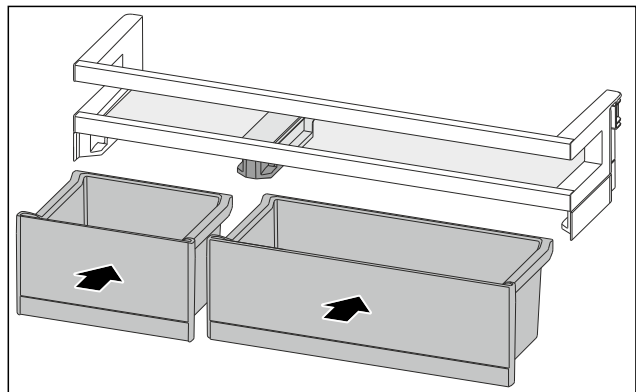

Fig. 143
- ▶ Insert the VarioBoxes in reverse order. (see Fig. 143)